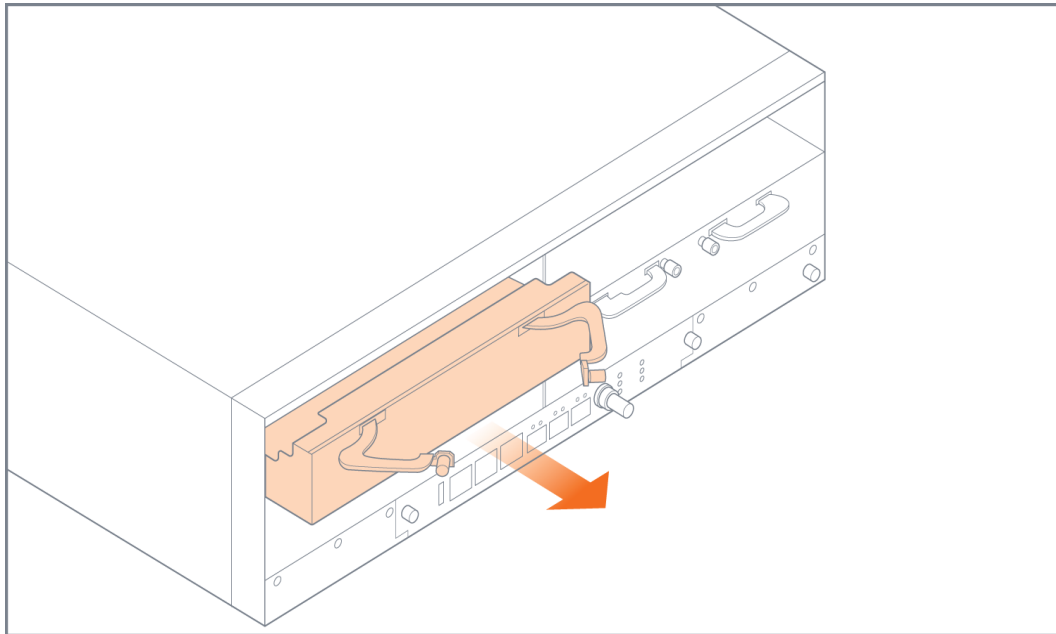

Figure 3-10: Filler Panel Removal
6. Remove a filler panel as shown in Figure 3-10 on page 65.